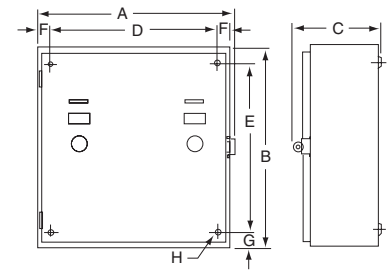

Figure 1
**Table 16.248: NEMA 1 Enclosure—Non-Combination (Figure 1)**